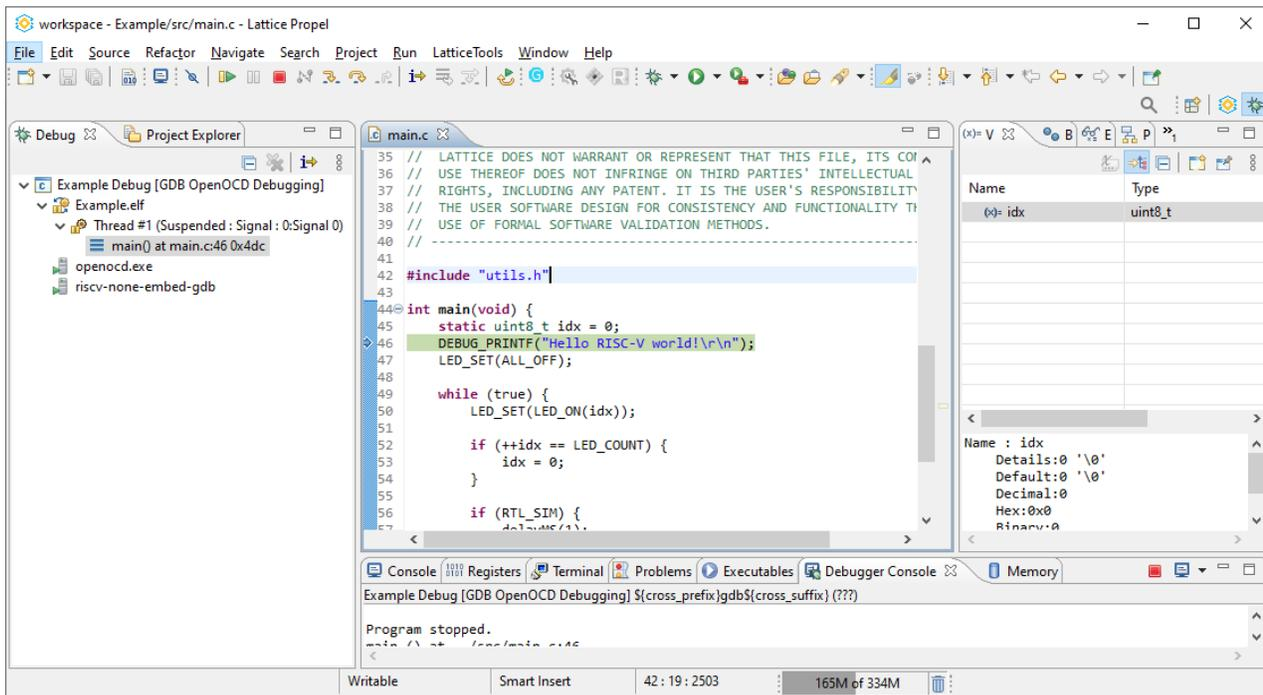

Figure 3.36. Debug Perspective
6. The Propel Window displays as shown in Figure 3.36 The execution stops right at the beginning of the *main()* function.